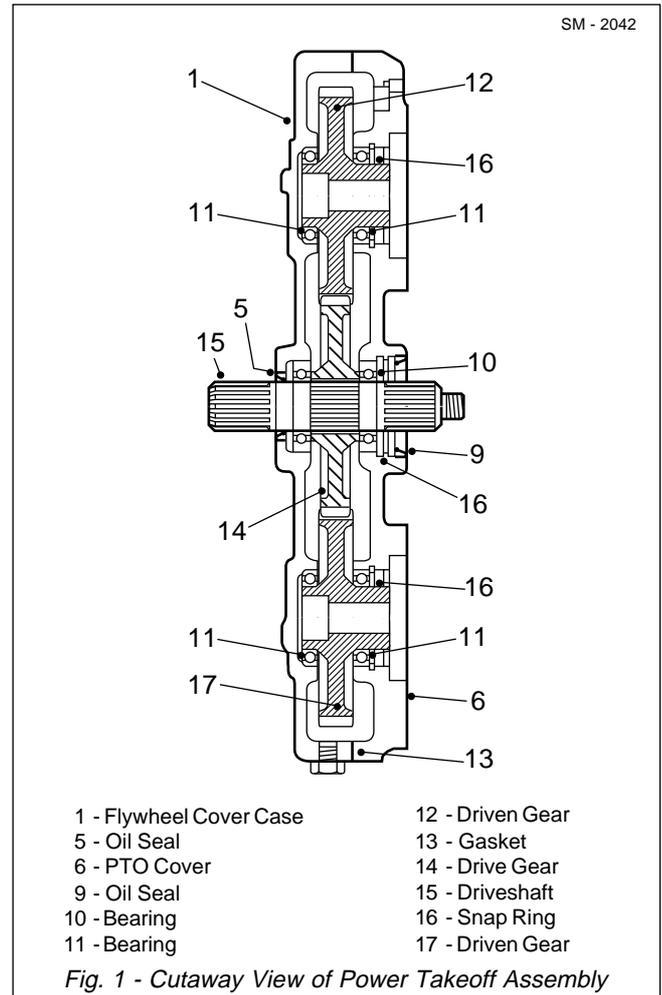

Fig. 1 - Cutaway View of Power Takeoff Assembly
Numbers in parentheses refer to Fig. 1.
4. Drain oil from power takeoff housing by removing drain plug (14) from flywheel cover case (1, Fig. 1). Reinstall drain plug (14) securely.
5. Match mark main hydraulic pump mounting flange and PTO cover (6, Fig. 1) so that the pump can be installed in the same position at installation.
6. With suitable blocking or lifting equipment, support the main hydraulic pump before loosening attaching nuts. Remove nuts and lockwashers from main hydraulic pump mounting studs and secure pump clear of PTO assembly (1).
7. Match mark tandem pump mounting flange and PTO cover (6, Fig. 1) so that the pump can be installed in the same position at installation.
9. Match mark engine flywheel housing and flywheel cover case (1, Fig. 1) so that PTO assembly (1) can be installed in the same position at installation.
10. Attach a suitable lifting device to PTO assembly (1) and remove bolts (2 & 3) and lockwashers (4) securing PTO assembly (1) to the engine flywheel housing. Carefully lower PTO assembly (1) from the flywheel housing and move to a clean work area for disassembly.
3. Install new oil seal (5) in centre bore of flywheel cover case (1) so that it is flush with flywheel cover case (1) face. See Fig. 1.
4. Press bearings (10 & 11) into their bores in flywheel cover case (1).
5. Press bearings (10 & 11) into their respective bores in PTO cover (6). Turn PTO cover (6) over and install snap rings (16).
6. Install new oil seal (9) into centre bore in PTO cover (6) so that it is flush with PTO cover (6) face. See Fig. 1.
7. Install driven gears (12 & 17) and driveshaft (15) into flywheel cover case (1). Slide drive gear (14) over driveshaft (15) to its proper location.
8. Install new gasket (13) on PTO cover (6) and assemble PTO cover (6) to flywheel cover case (1). Secure PTO cover (6) to flywheel cover case (1) with bolts (3 & 7) and lockwashers (4 & 8).
1. Using suitable lifting equipment, position PTO assembly (1) on engine flywheel housing. Secure PTO assembly (1) to the engine flywheel housing with bolts (2 & 3) and lockwashers (4).
4. Reconnect driveline to yoke (5). Refer to Section 130-0010, FRONT DRIVELINE.
5. Remove oil level plug (13) from elbow (12) in the front of PTO cover (6, Fig. 1). Fill PTO assembly (1) with lubricant specified in Section 300-0020, LUBRICATION SYSTEM, until oil flows from the oil level port. Install oil level plug (13) in elbow (12) and tighten securely.
To drain: Remove drain plug (14) from flywheel cover case (1, Fig. 1) and drain oil into a suitable container. Reinstall drain plug (14) securely when draining is complete.